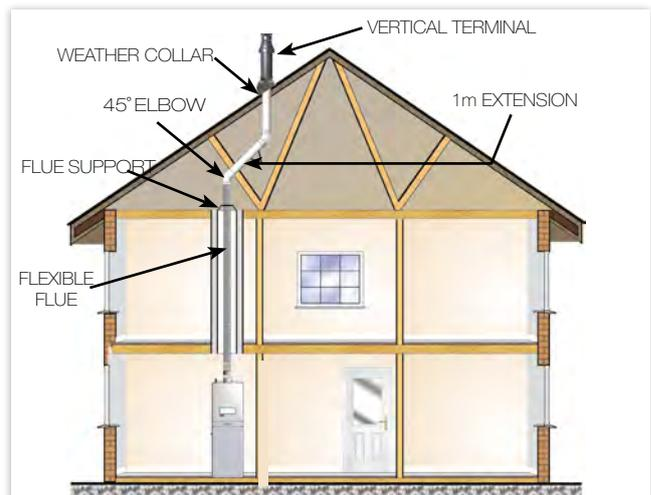

FIGURE 6. 60/100mm FLEXIBLE FLUE EXAMPLE
10.11.1 A flue duct outlet of an appliance should be at least 600mm from the boundary line when facing it and at least 300mm from the boundary line when running parallel to it. (See Figure 6)